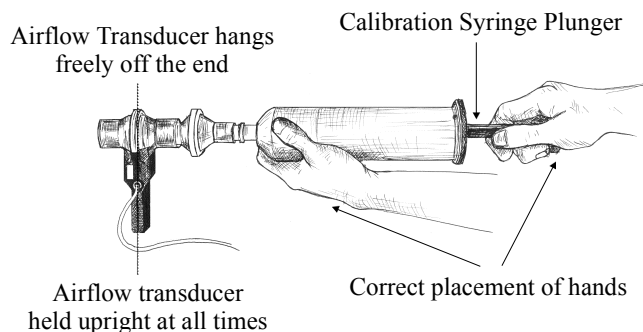

Fig. 13.6
1. Pull the Calibration Syringe Plunger all the way out and hold the Calibration Syringe/Filter Assembly upright (Fig. 13.6)
Hold the syringe assembly as previously shown in Fig. 13.6.